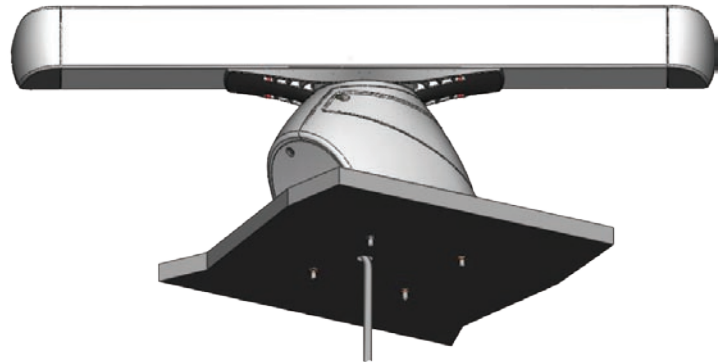

Figure 8
3. Route the power and network cables through the front of the radar (Figure 7), or through a hole drilled through the mounting surface (Figure 8). Avoid excessively bending or twisting the cables.